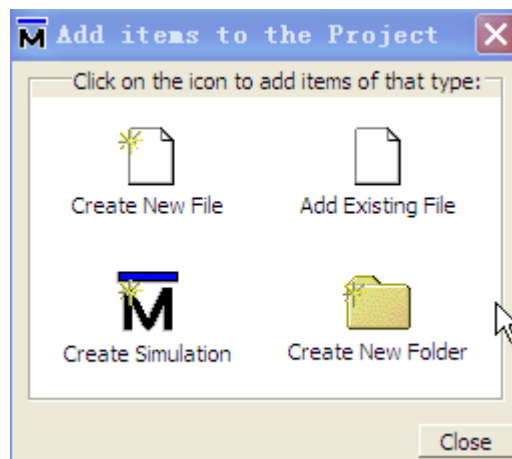
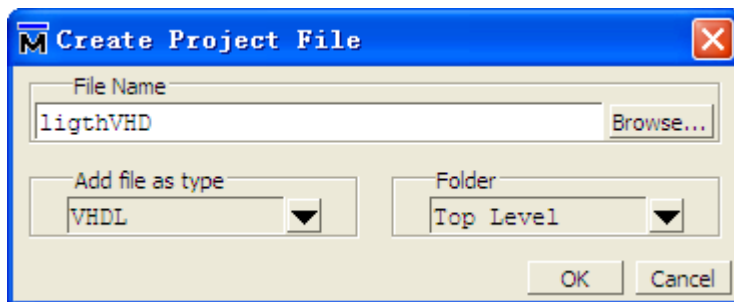

Figure 33. Add items to a Project
Figure 35. Add new files to Project
4. Once you click **OK** to accept the new project settings, a blank Project window and the **“Add items to the Project”** window will appear (Figure 33), in which you can create a new design file, add an existing file, create a simulation configuration or add a folder for organization purposes.
Either Clicking on the **Create New File** icon of Figure 33 or selecting **File >New > Project** from the menu bar can create a new file, here we choose the first method: the **Create Project File** window shown in Figure 35 will appear. Specify the file type, specify a folder to which. Here we input **lighVHD** as File Name, choose **VHDL** for Add file as type and Top Level for Folder (Folder means the path to which the file will be added and the Top Level means the project path we just set), then click OK. Click **Close** to close the **Add items to the Project** window.